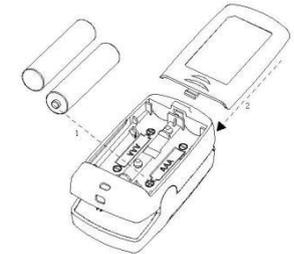

Figure 3 Battery Installation
1) Refer to Figure 3, insert two AAA size batteries into the battery compartment properly, and note the polarity markings.